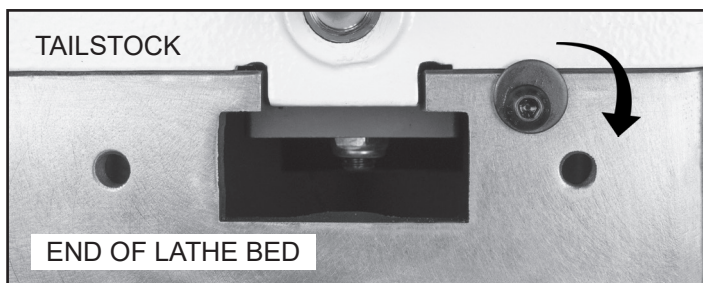

FIG. 5
- At the right end of the Bed, with a 5mm hex wrench loosen the Bolt so that the offset Stop Washer swivels down below the bed surface. Fig. 5.